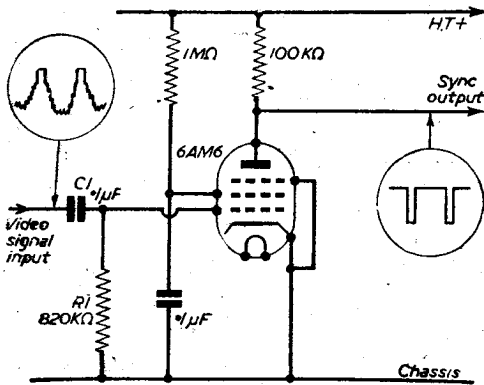

Fig. 30.—A sync separator of conventional design as used in Etronic ECV1523 and ECV1527 series receivers.
**P**ENTODE valves are widely adopted in modern television receiver design for separating the sync pulses from the composite video signal. Diodes are also employed, but these will be considered later. A pentode sync separator used in Etronic ECV1527 and ECV1523 series receivers is shown in Fig. 30. This circuit is representative of many employed for this function, and as will be seen is not unlike a normal amplifier stage—or, at least, until we come to look at the component values!
The circuit shown in Fig. 30 is supplied from the video stage feeding the cathode of the picture-tube, and during the positive-going sync pulse portion of the video signal capacitor C1 charges due to grid current through R1. During the picture portion of the signal, however, discharge current flows through the grid resistor R1 from the capacitor C1, and it is an important characteristic of the circuit that the total charge flowing as grid current exactly balances the
If the signal applied to the sync valve is small, however, the resulting grid current may be insufficient for successful clipping and ragged verticals may result. Alleviation in this connection can sometimes be obtained by altering the values of R1 and C1 (Fig. 30). Their product must be kept high, though, and an enhanced clipping action can, in certain cases, be acquired by increasing the value of R1 to the region of 2-3 megohms, when, instead of returning it to the chassis, as in Fig. 30, it should be connected to a small positive potential to increase the grid current flowing.